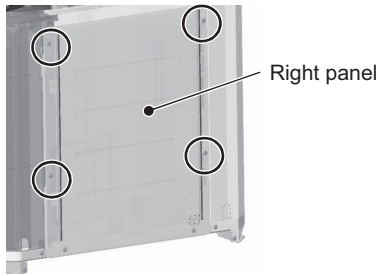

Figure 1
- (1) Remove the front heat exchanger. Refer to [8-14-12 Maintenance Procedures for the Heat Exchanger <Type A(1/2)/Type TR(2)/Type RU2>] for details.
- (2) Remove the top, front, and right compressor covers. Refer to [8-14-7 Compressor Replacement Procedure <Type A>] or [8-14-8 Compressor Replacement Procedure <Type A1/A2/Type TR(2)/Type RU2>] for details.
- (3) Remove the duct from the control box. Refer to the control box replacement procedure for details.
- (4) Remove the right and inside (right) compressor panels by unscrewing the four screws. (Applicable only to the S-module. See Figures 1 and 2.)